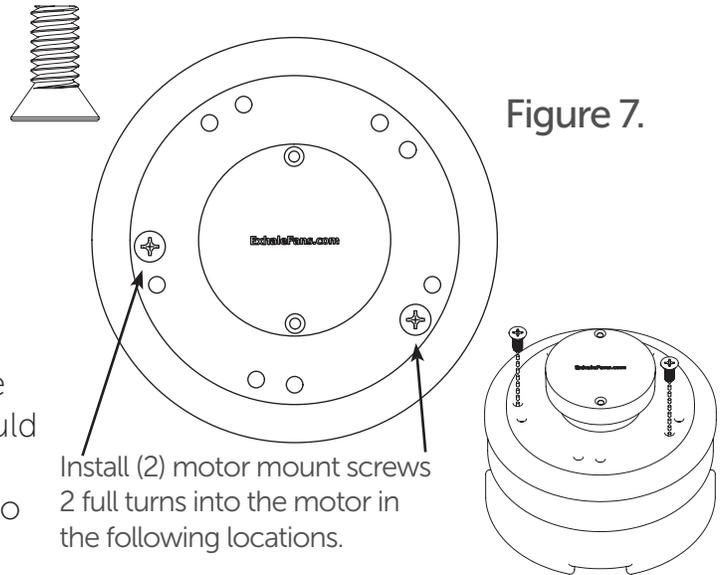

Figure 7.
- a. Using only (2) of the included 1/4-20 flat head motor mount screws, install them (2) full rotations as shown in Figure 7.